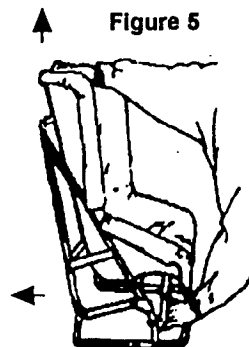

Figure 6
2. Harness straps must always be threaded through the upper seat slots when used forward-facing. To change harness strap(s) position, undo straps from steel splitter plate at back and re-thread through correct slots. Reconnect straps to steel splitter (Figure 6).